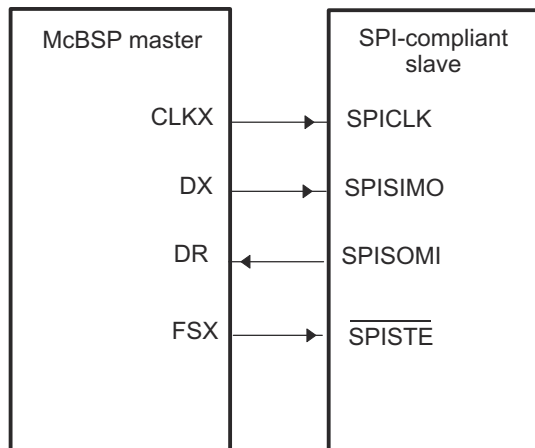

Figure 34-41. SPI Interface with McBSP Used as Master
An SPI interface with the McBSP used as the master is shown in Figure 34-41. When the McBSP is configured as a master, the transmit output signal (DX) is used as the SPISIMO signal of the SPI protocol and the receive input signal (DR) is used as the SPISOMI signal.